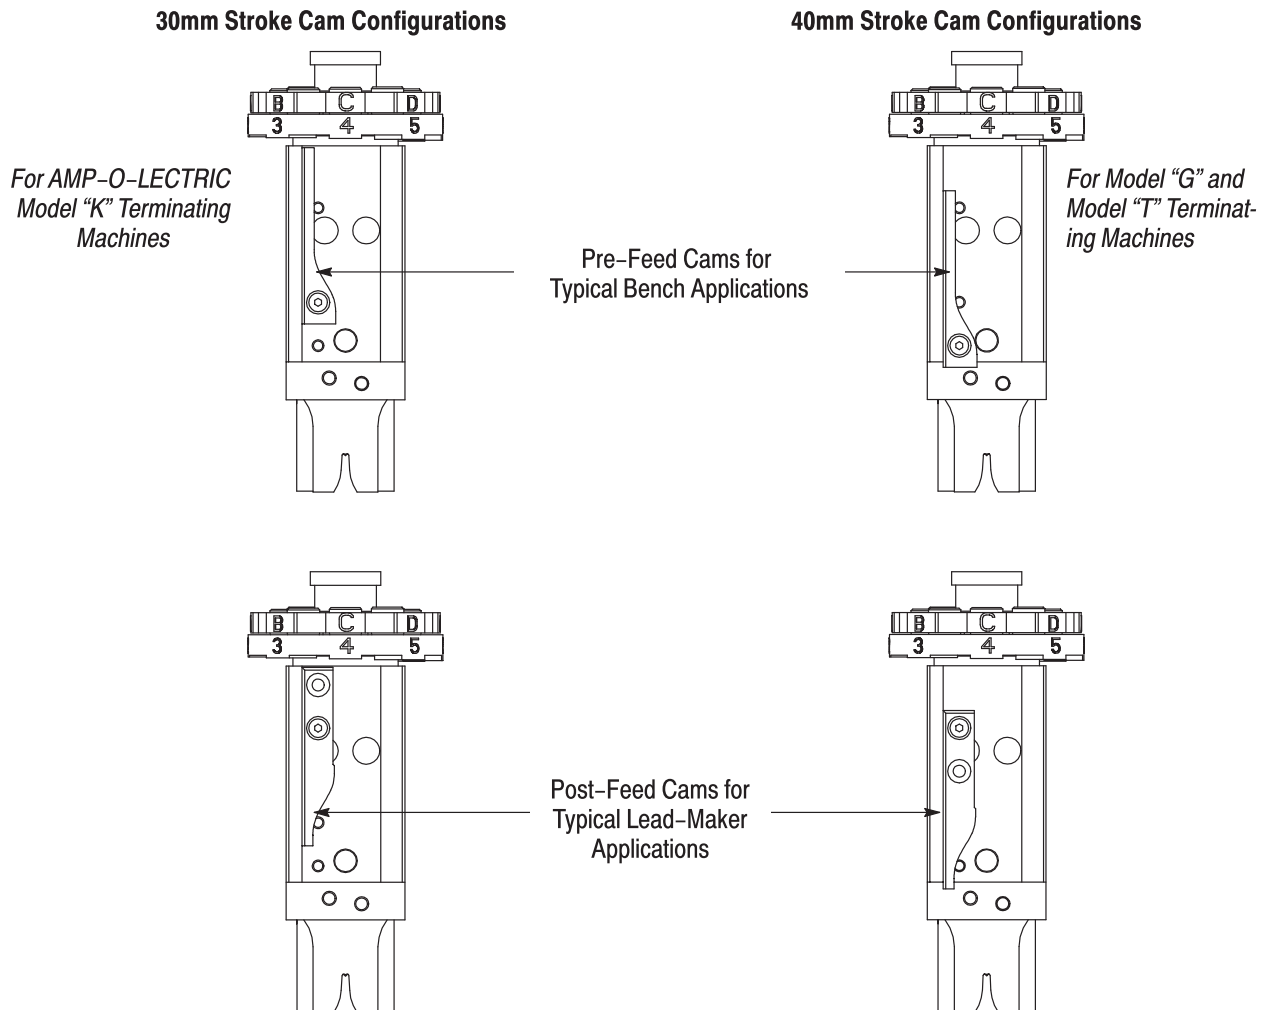

Figure 4
4. Locate the feed cam on the ram. See Figure 4.